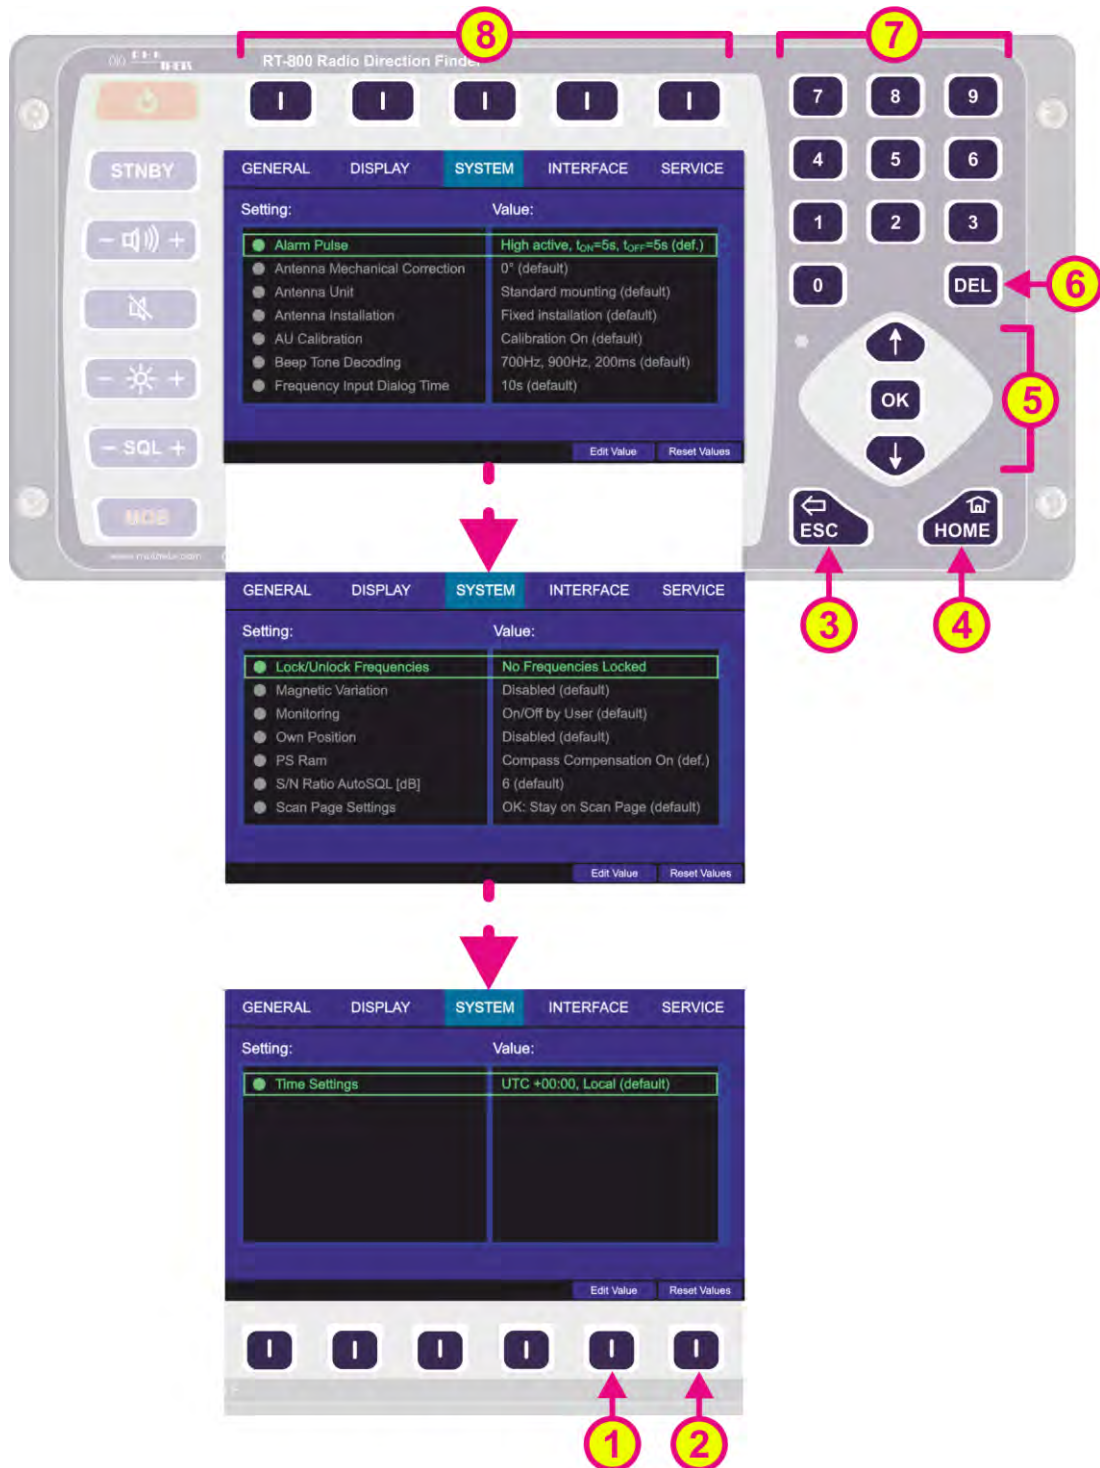

Fig. 106 Setup page. System settings
- By pressing the “OK” button or the hotkey “Edit Value” (s. Fig. 106), while the setting “Antenna Unit” is marked by the green frame, the following dialog is opened.
- By pressing the “OK” button or the hotkey “Edit Value” (s. Fig. 106), while the setting “Antenna Mechanical Correction” is marked by the green frame, the following dialog is opened.
- By pressing the “OK button or the hotkey “Edit Value” (s. Fig. 106), while the setting “Antenna Installation” is marked by the green frame, the following dialog is opened.
- By pressing the “OK button or hotkey “Edit Value” (s. Fig. 106), while the setting “AU Calibration” is marked by the green frame, the following dialog is opened.
The user can define characteristics of beep tone decoding by pressing “OK” or the hotkey “Edit Value” (s. Fig. 106), while the setting “Beep Tone Decoding” is marked by the green frame. The following dialog opens (s. Fig. 116).